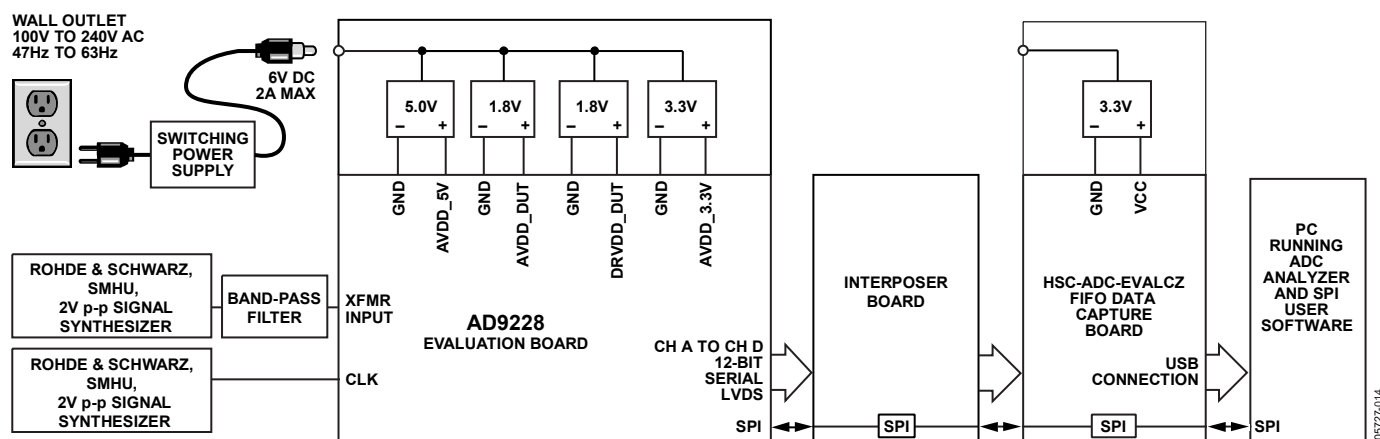
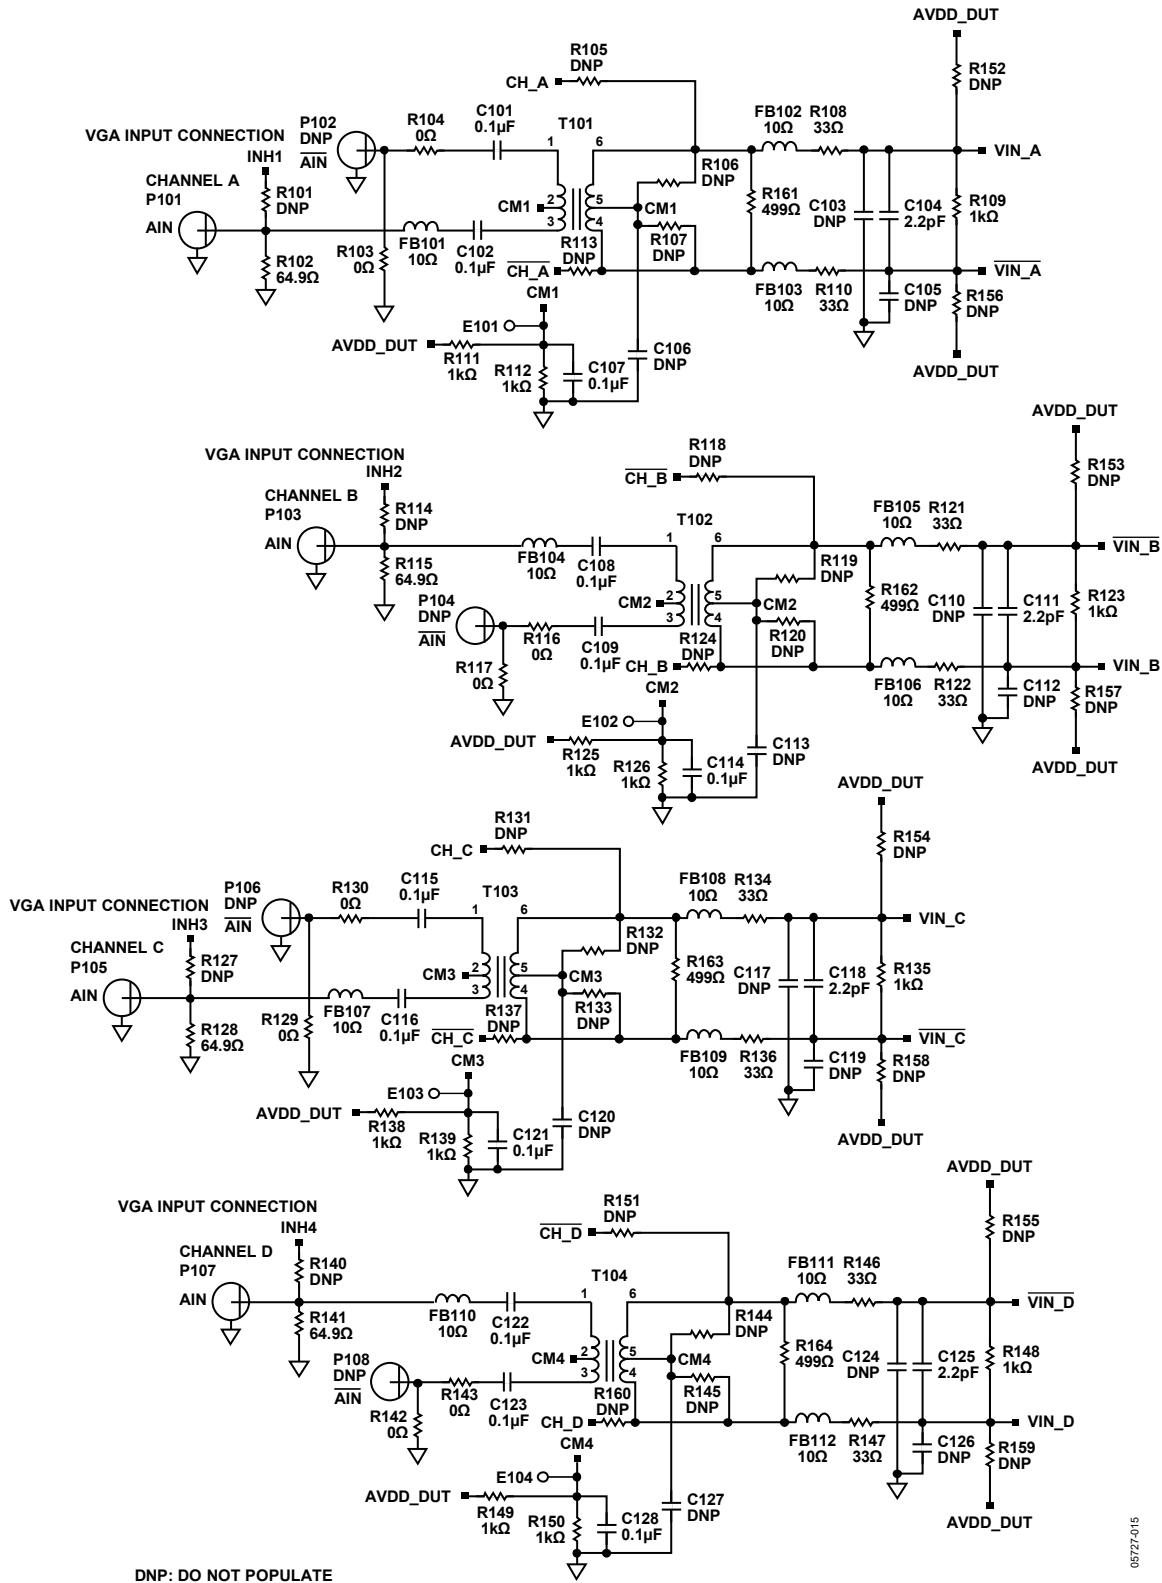
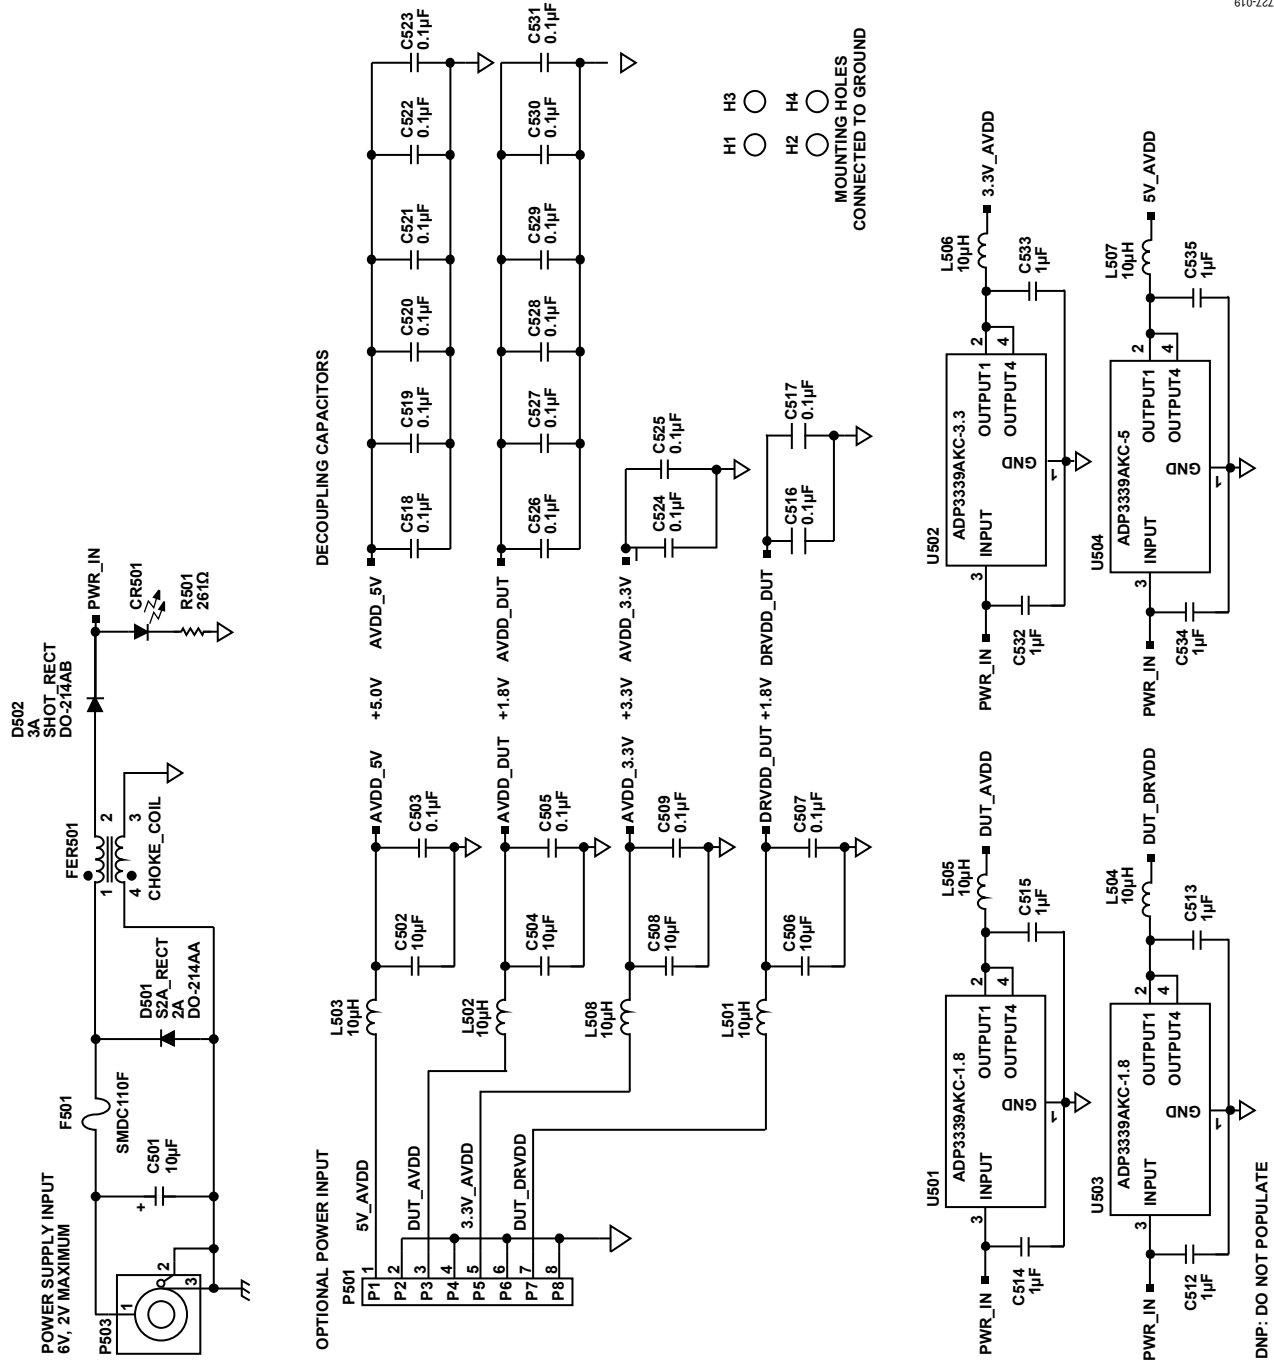
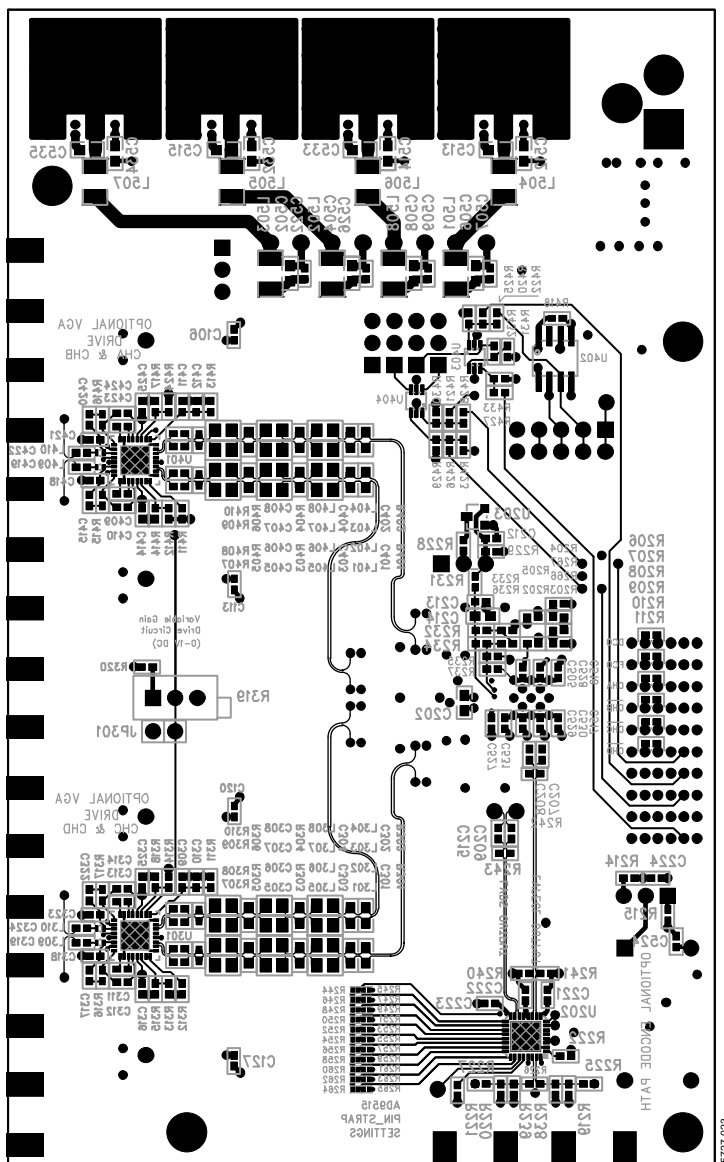

Figure 71. Evaluation Board Connection
Figure 73. Evaluation Board Schematic, DUT Analog Inputs
Figure 77. Evaluation Board Schematic, Power Supply Inputs
Figure 81. Evaluation Board Layout, Secondary Side (Mirrored Image)
The AD9228 evaluation board provides all of the support circuitry required to operate the ADC in its various modes and configurations. The converter can be driven differentially using a transformer (default) or an AD8332 driver. The ADC can also be driven in a single-ended fashion. Separate power pins are provided to isolate the DUT from the drive circuitry of the AD8332. Each input configuration can be selected by changing the connection of various jumpers (see Figure 73 to Figure 77). Figure 71 shows the typical bench characterization setup used to evaluate the ac performance of the AD9228. It is critical that the signal sources used for the analog input and clock have very low phase noise (<1 ps rms jitter) to realize the optimum performance of the converter. Proper filtering of the analog input signal to remove harmonics and lower the integrated or broadband noise at the input is also necessary to achieve the specified noise performance.
See Figure 73 to Figure 81 for the complete schematics and layout diagrams demonstrating the routing and grounding techniques that must be applied at the system level.
- **D + x, D - x:** If an alternative data capture method to the setup shown in Figure 73 is used, optional receiver terminations, R206 to R211, can be installed next to the high speed backplane connector.